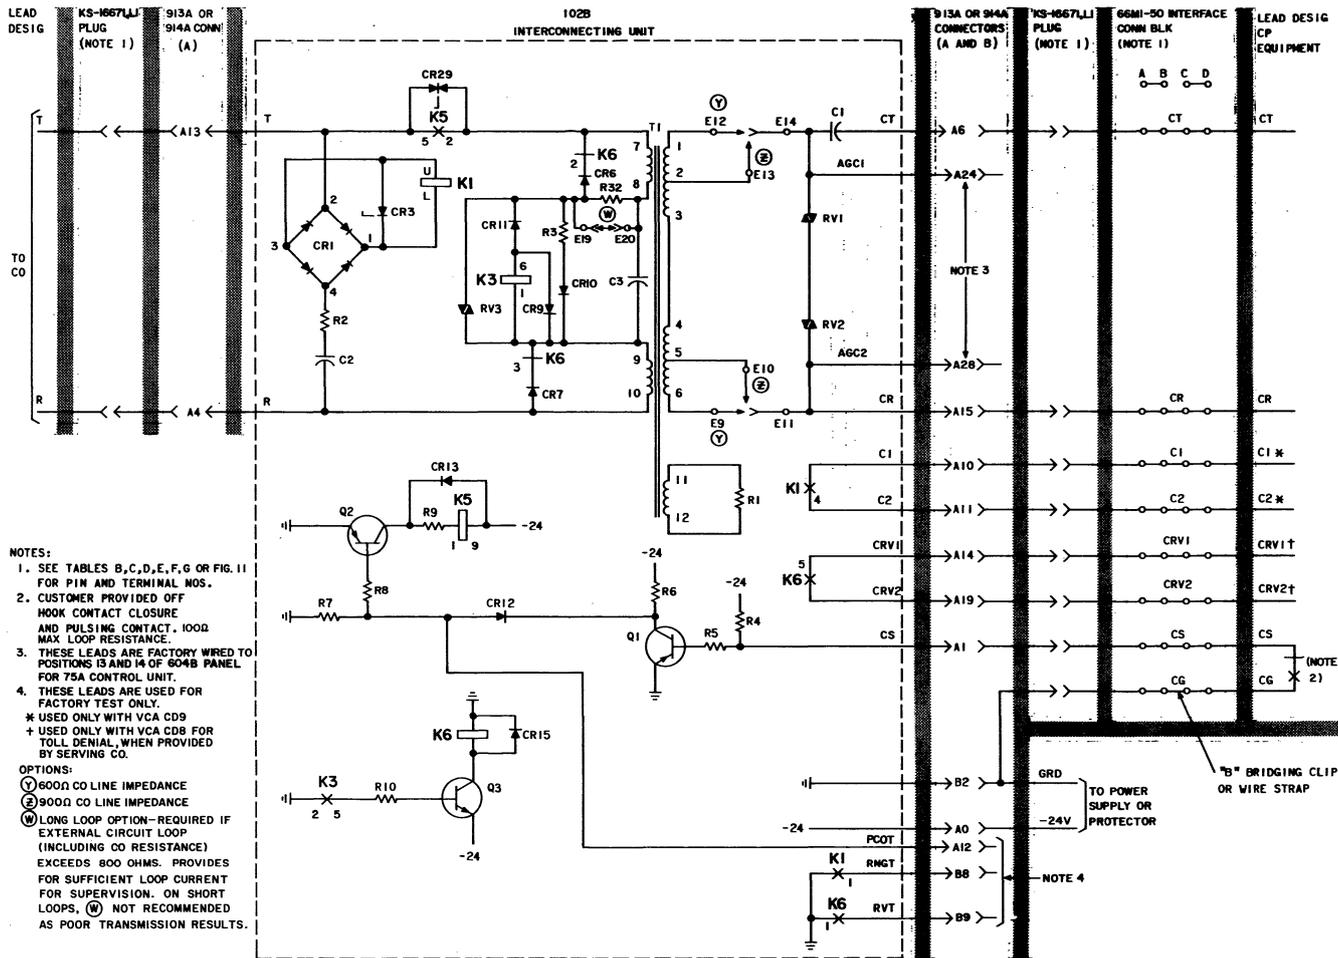

Fig. 14—Schematic—102B Interconnecting Unit
B. 102B Interconnecting Unit (Fig. 14)